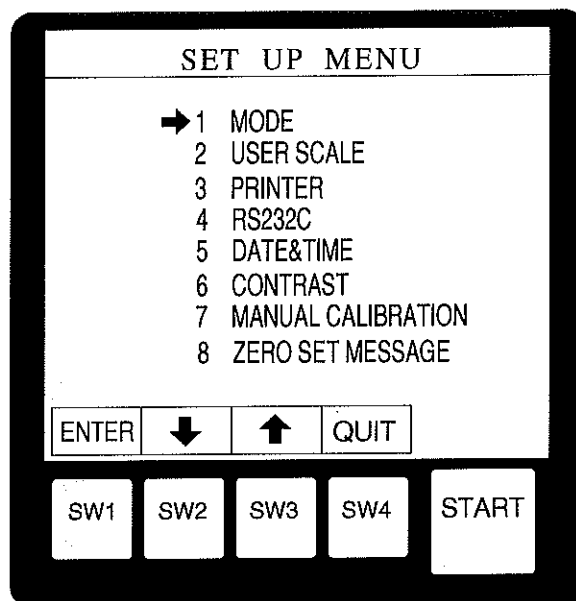

Fig. 8-1
- (2) A screen as illustrated in SET UP MENU screen is displayed (Fig. 8.1). Use the SW2(↓) or SW3(↑) key to set the arrow (→) to 5 DATE & TIME. Then press the SW1(ENTER) key.